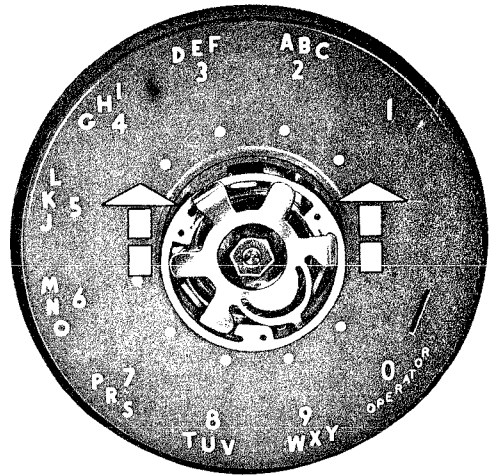

Fig. 8 — Lock Ring in Extreme Forward Position for Removal
- (5) Raise lock ring until it is just under the clamp plate and slide toward the numeral 4 until the upper end of the ring can be lifted over the clamp plate (Fig. 8). Slide ring toward numeral 9 to remove.
- (6) Lift off number plate.